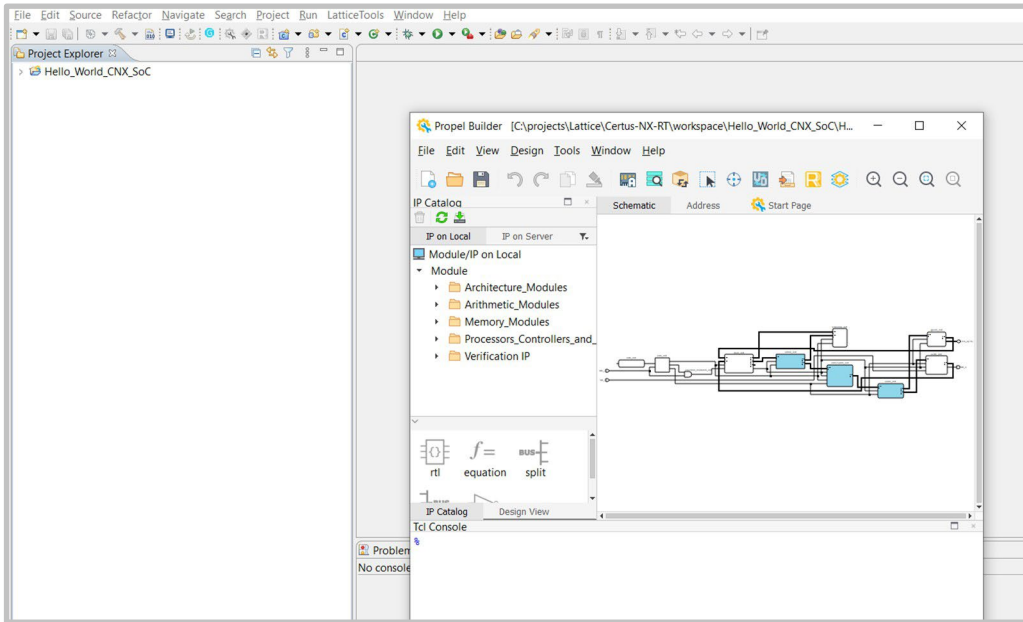

Figure 7: Default Propel Builder View
- After clicking **Finish**, **Propel Builder** opens with a view of the template SoC design, see **Figure 7**.